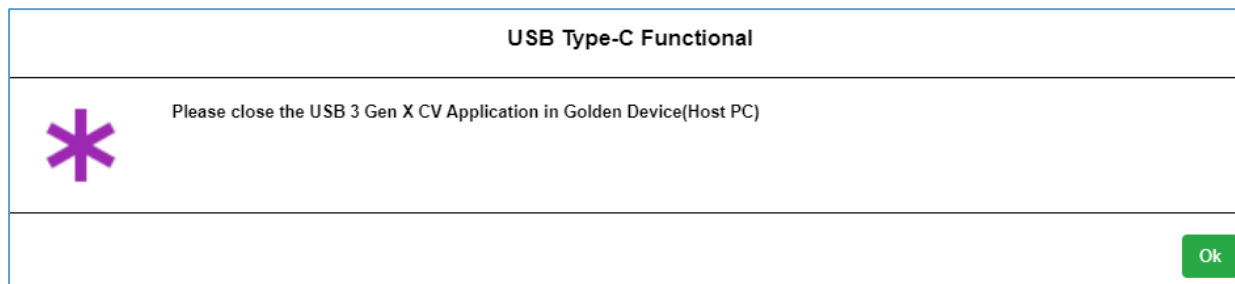

FIGURE 7.12: USER PROMPT TO CLOSE USB 3 GEN X CV APP IN GOLDEN DEVICE
10. The following pop-up message (Figure 7.12 below) will then appear to ask the user to close the USB 3 Gen X CV application in the golden device.